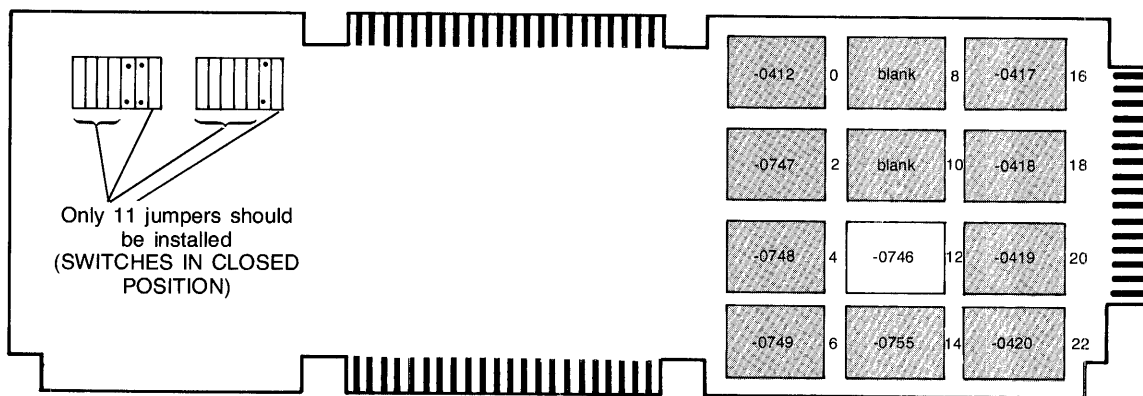

Figure 7-15. 13261A-003 Device Support Firmware ROM IC Locations on Control Memory PCA's
3. ( ) If your interface accessory includes option -048, install ROM IC (part no. 1818-0746) in the appropriate Control Memory PCA. Follow the HP 13261A-003 Device Support Firmware installation procedures on page 7-15. Figure 7-15 shows the proper location for the ROM IC.)
8. ( ) Carefully insert the appropriate ROM contained in accessory package into the *empty* ROM sockets 10 through 16 on the Control Memory PCA (see figure 7-15). Be sure that ROM pin 1 is at upper right corner of each socket. Be sure that all jumpers are installed (see figure 7-15).
9. ( ) Carefully insert the appropriate ROM contained in accessory package into empty ROM socket 14 on the other Control Memory PCA (see figure 7-15). Be sure that ROM pin 1 is at upper right corner of each socket. Be sure that the appropriate jumpers are installed (see figure 7-15).